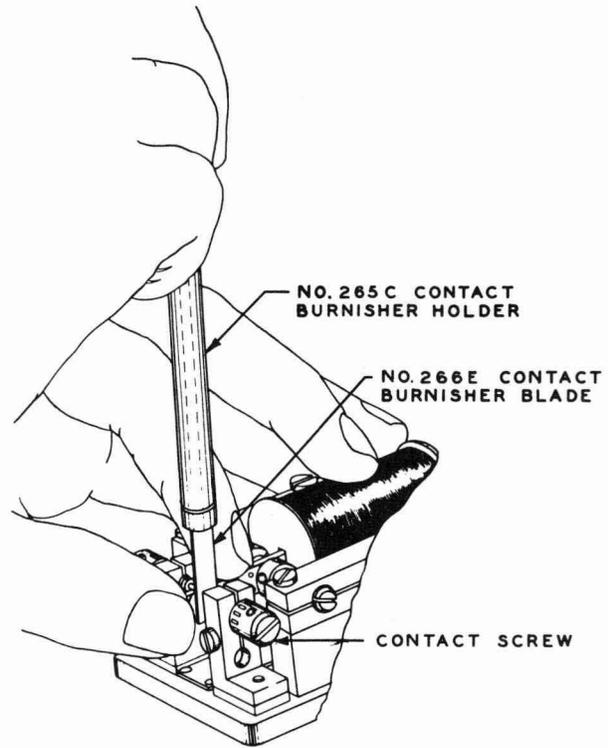
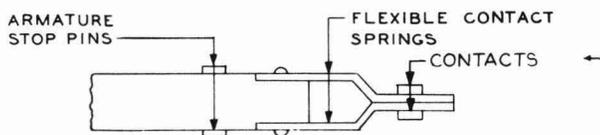

Fig. 20 - Method of Cleaning Contacts on 209-type Relays Equipped With Duckbill-type Contact Springs
Fig. 19 - Duckbill Type of Flexible Contact Springs - 209-type Relays
4.13 *209-type Relays Equipped With the Duck-bill Type of Flexible Contact Springs Il-lustrated by Fig. 19:* Insert the No. 266E blade in the No. 265C contact burnisher holder with the wide end outward. Insert the contact bur-nisher blade approximately vertically between the armature and the stationary contact as shown in Fig. 20. If necessary, back off the con-tact screws equally to permit the burnisher blade to enter between the armature and the contact. Hold the end of the flexible contact springs with the thumb and forefinger as shown in Fig. 20, to resist the movement of the armature in a vertical plane, and burnish the contacts by rubbing up and down while holding the arma-ture lightly against the burnisher. Take care that the contacts are burnished so that their surfaces remain parallel to the armature. Do not attempt to reproduce a rounded surface on the station-ary contact. If the position of the contact screws was disturbed, readjust the screws in the section covering requirements and adjusting procedures for the apparatus.